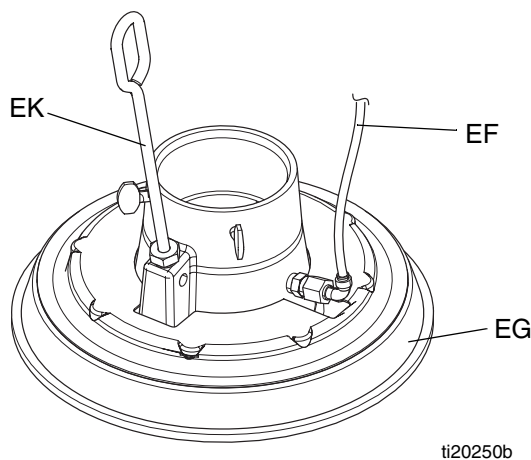

FIG. 10
See FIG. 10. If the platen does not come out of the pail easily when the pump is being raised, the air assist tube (EF) or air assist check valve may be plugged, or the bleed stick (J) may not be tightened. A plugged air assist check valve prevents air from reaching the underside of the plate to assist in raising it from the pail. If the bleed stick is not tightened no pressure will build.
1. Follow the **Pressure Relief Procedure** on page 10. Refer to platen parts illustration on page 28 and disassemble air assist check valve (414) as shown.
2. Clear air assist tube (EF) in platen. Clean all parts of air assist check valve (414) and reassemble.
3. Remove bleed stick (J) from platen. Push bleed stick through bleed relieve ports to remove material residue.